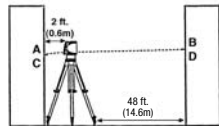

Fig 2
4. Move the instrument and the tripod so the laser is positioned approximately 2 feet away from wall 1 (see fig. 2). Level the tripod and position the instrument on the tripod facing wall 1. Turn the laser on and mark the the beam as point C.